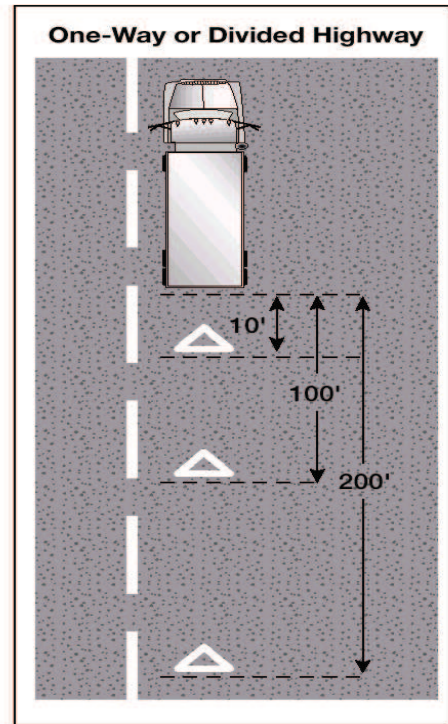

Figure 2.8
- ✓ If you must stop on or by a one-way or divided highway, place warning devices 10 feet, 100 feet and 200 feet toward the approaching traffic. See Figure 2.8.